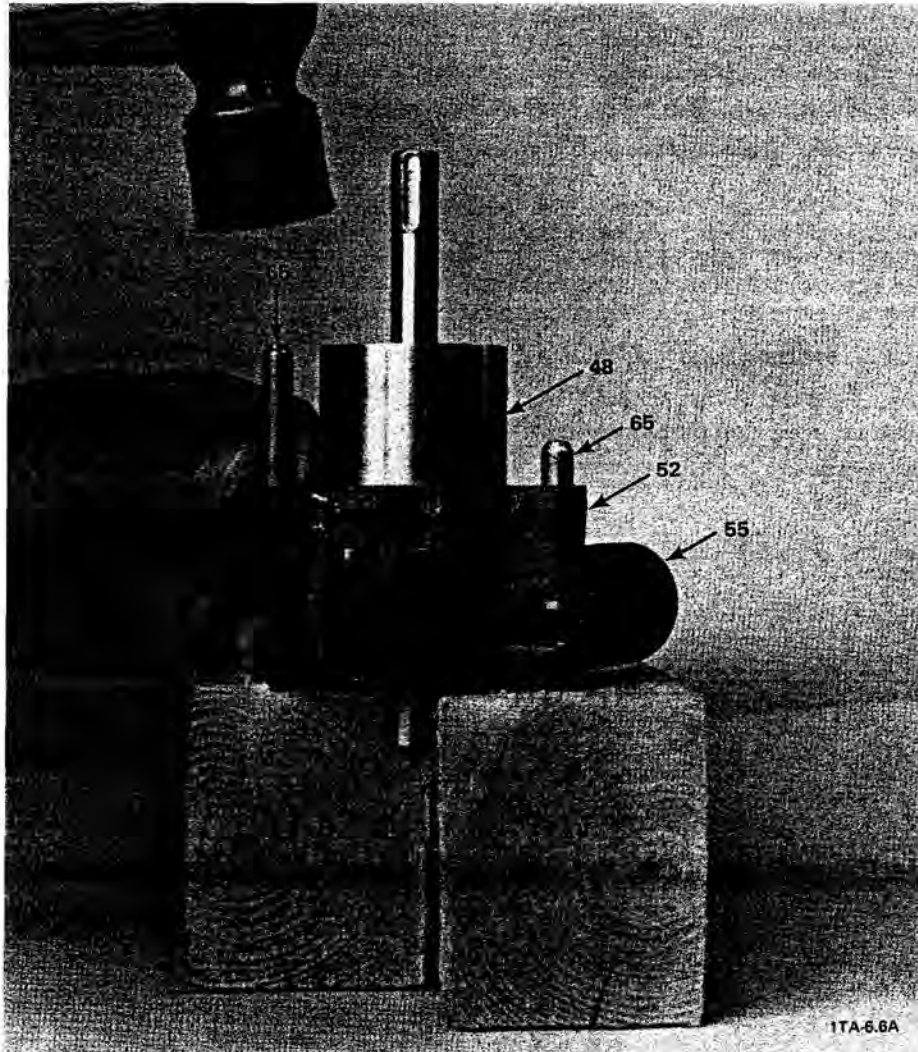
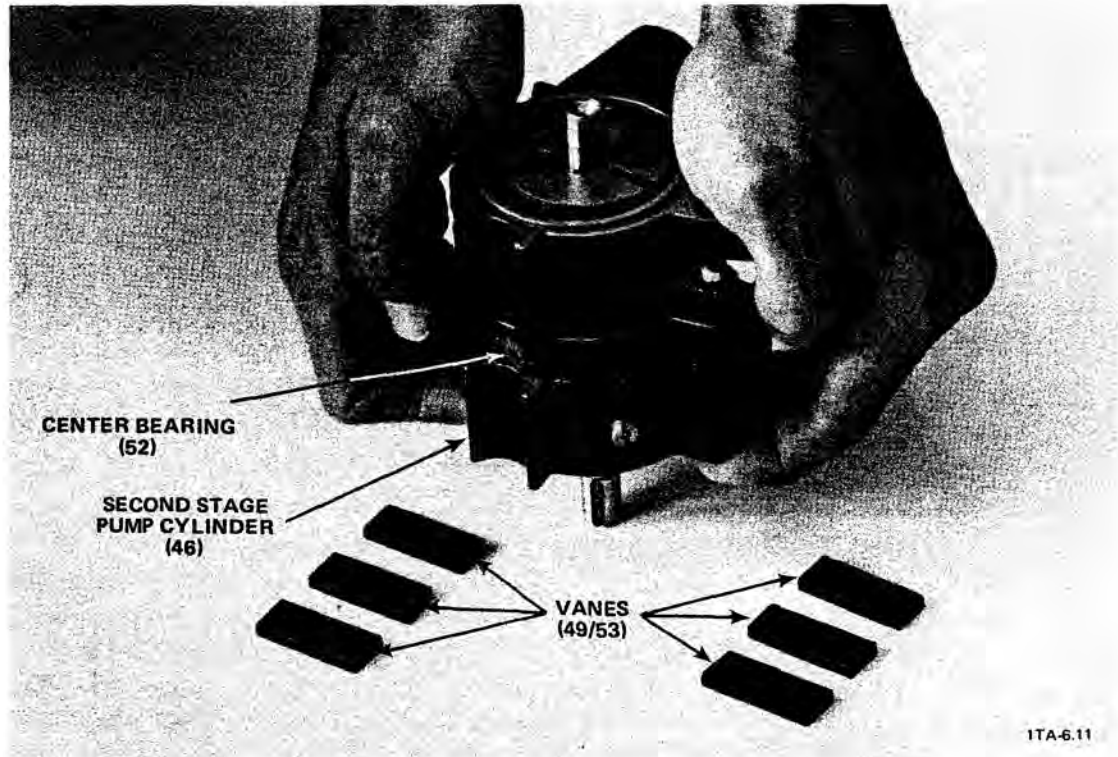

Figure 5-19. Driving the Long Cylindrical Pins that Align the HV Cylinder and the Center Bearing (D2A Pump Model Shown)
Figure 5-20. Pulling the Second Stage Pump Cylinder Tight Against the Center Bearing (D2A Pump Model Shown)
- a. Place the high vacuum (HV) stage cylinder (55) so that it is lying flat with the intake tube portion (the top) on the right facing away from you (see Figure 5-19). Fit an O-ring (47) into the O-ring groove on the cylinder (55) surface that is facing up.
- b. Attach the assembly that you put together in Step F-5 to the HV stage pump cylinder (55) as follows:
**Step F-6 b (Cont'd.)** (1) Take the Step F-5 assembly and insert its HV-stage end (the end that has two pulling holes on the outside end of the rotor) down into the HV stage cylinder (55) until the center bearing plate (52) rests against the HV stage cylinder (55) (see Figure 5-19).
(2) Align the two alignment holes in the center bearing plate (52) with the two upper alignment holes on the HV stage cylinder (55). (See Figure 5-19).
(3) **NOTE:** When driving the two long cylindrical pins (65) into the alignment holes, the flat end (nonbeveled end) of the pins (65) should face the HV cylinder (55). The HV cylinder is the one with the intake tube portion.
**REQUIRED ACTION:** Using a rubber hammer, hit the beveled end of the pins to drive the two long cylindrical pins (65) down through the two alignment holes in the center bearing plate (52), then through the two upper alignment holes in the HV cylinder (55) until the flat end of each pin extends just out of each upper HV-cylinder alignment hole (see Figure 5-19).
(4) Ensure that the center bearing plate (52) and the HV stage cylinder (55) are tight against each other and that they remain tight throughout the module assembly sequence.
c. Place the second stage pump cylinder (46) so that it is lying flat with the top edge (the flat portion that has the screw holes, exhaust holes, and gas ballast hole) on the right facing away from you. Fit an O-ring (47) into the O-ring groove on the cylinder (46) surface that is facing up.
**For D30A, D60A, and D90A pump models,** the second stage cylinder (46) should be lying flat on an open vice or other open support, so that the shaft can be inserted through it in Step d(3).
d. Attach the assembly that you put together in Step b(3) to the second stage pump cylinder as follows (see Figure 5-20):
(1) Take the assembly from Step b(3) and insert its second-stage end (the end that has the longer section of the shaft) down into the second stage pump cylinder (46).
**REQUIRED ACTION:** Align the beveled end of the two long cylindrical pins (65) (the pins which extend out of the alignment holes in the center bearing plate (52)) with the two upper alignment holes in the second stage cylinder (46).
(3) **NOTE:** When Step d(3) is completed, the beveled ends of the two long cylindrical pins (65) should extend most of the way through the upper alignment holes in the second stage pump cylinder (46).
**REQUIRED ACTION:** For the D2A, D4A, D8A, and D16A pump models, while keeping the assembly vertical, pull the second stage cylinder (46) straight up over the long cylindrical pins (65) until it is tight against the center bearing plate (52) (see Figure 5-20).
**For the D30A, D60A, and D90A pump models only,** while keeping the assembly vertical, push the Step b(3) assembly straight down until it is tight against the second stage cylinder (46).
(4) Ensure that the cylinders (46/55) and center bearing plate (52) remain tight against each other throughout the module assembly sequence.
e. **NOTE:** If you are reusing the old vanes (53), make sure that each used vane is replaced in its same rotor slot. Also make sure that the orientation of each vane is the same as it was before disassembly so that each used vane is not turned end-for-end in its slot.
**NOTE:** Be sure that the slotted edge of the vanes (53) faces the center of the rotor (54) when inserting the vanes into the rotor.
**NOTE:** For the D4A, D16A, D60A, and D90A pump models only, the high vacuum stage rotor (54) and vanes (53) are longer than the second stage rotor (48) and vanes (49). For these pump models, be sure to insert the longer vanes (53) into the high vacuum stage rotor (54).
**REQUIRED ACTION:** Repeat Step C-11, except assemble rather than disassemble, to insert the three vanes (53) into the slots in the high vacuum stage rotor (54).
- f. While keeping the partially assembled module vertical, fit an O-ring (47) into the O-ring groove on the HV-cylinder (55) surface that is facing up (see Figure 5-20).
- g. Attach the rear end plate (60) to the partially assembled module as follows:
- (1) **NOTE:** Be sure to attach the rear end plate (60) to the HV-stage end of the module. The HV pump cylinder (55) is the one with the intake tube portion.
**NOTE:** The side of the rear end plate (60) that has the bronze bushing faces out.
**REQUIRED ACTION:** While keeping the partially assembled module vertical, align the rear-end-plate bushing hole with the shaft. Slide the rear end plate (60) down over the shaft until the machined surface of the rear end plate fits **tight** against the HV stage cylinder (55).